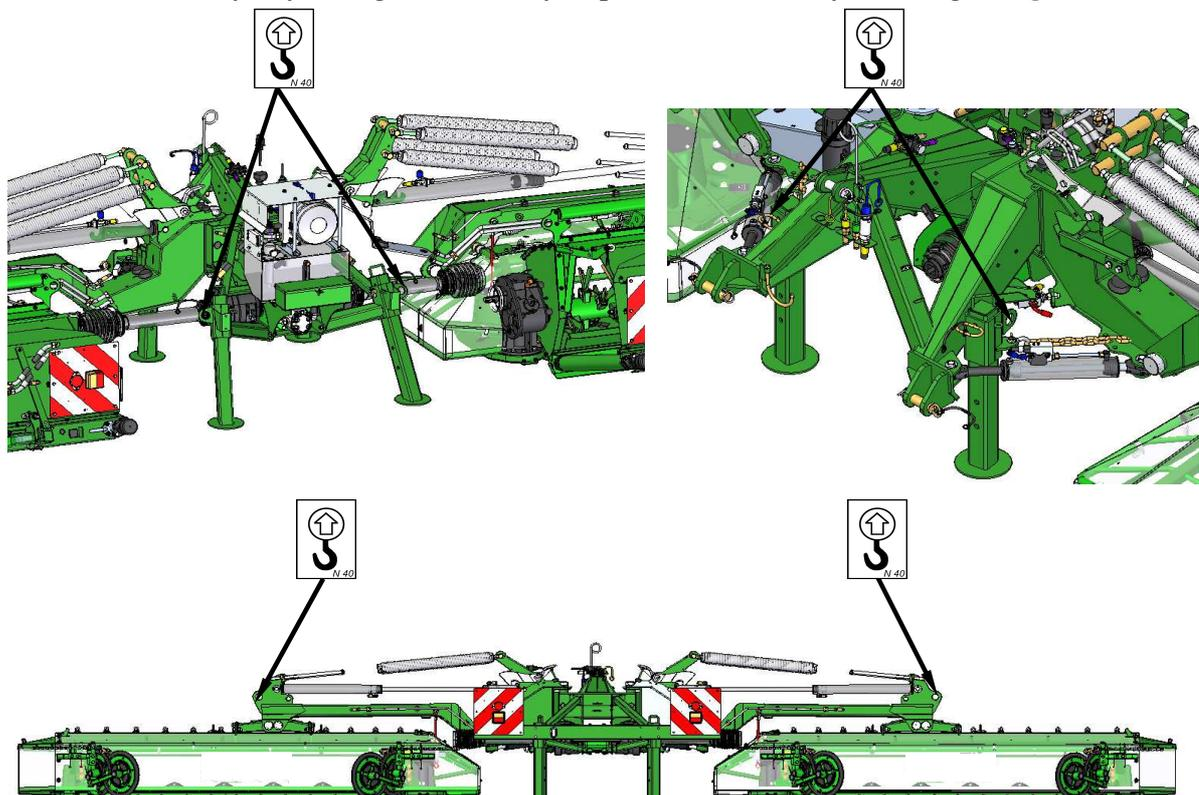

Fig. 6. Points for fixing of transport equipment
- ❑ Grab the mower by any lifting devices only in places indicated by hook sign (Fig. 6),